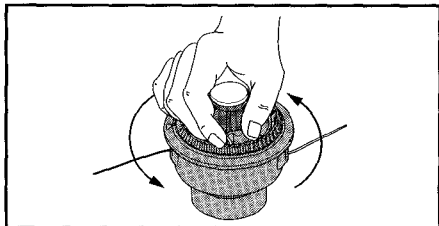

Fig. 22
6. Wind the inner reel **counterclockwise** until approximately four (4) inches of line remains outside of the eyelets in the outer spool (Fig. 22).